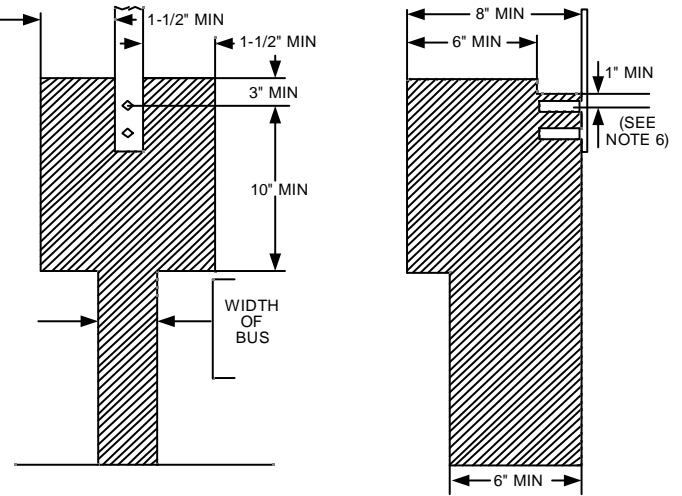

FIGURE 4
5. Each terminating facility shall have an unobstructed working space, accessible from the front of the pull section as viewed from the access compartment opening, in front of the entire mounting surface as shown in figure 4.